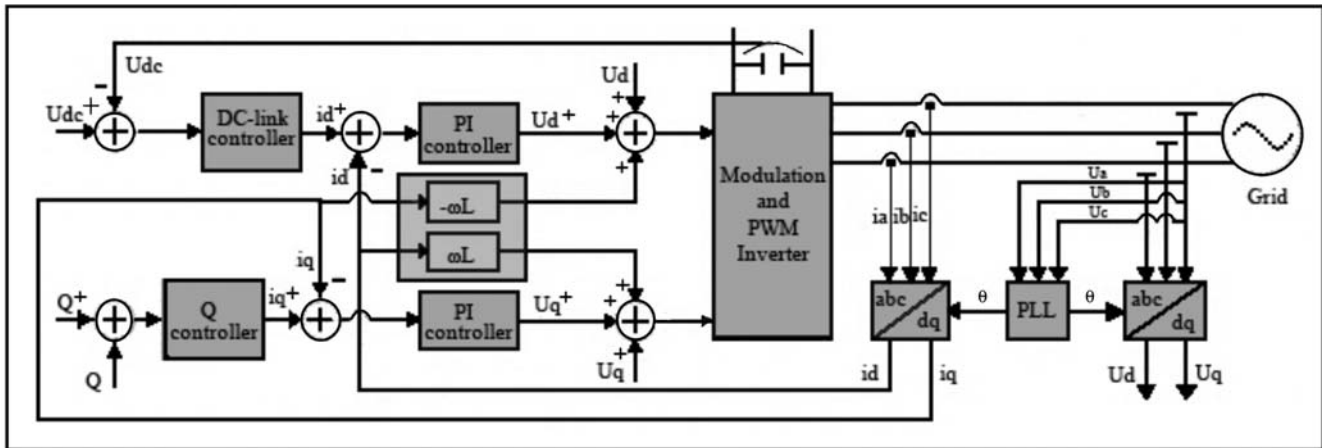

Fig.5: General structure for synchronous rotating frame control structure [2].
A schematic of the dq control is represented in Figure 5. In this structure, the dc-link voltage is controlled in accordance to the necessary output power. Its output is the reference for the active current controller, whereas the reference for the reactive current is usually set to zero, if the reactive power control is not allowed. In the case that the reactive power has to be controlled, a reactive power reference must be imposed to the system. The dq control structure is normally associated with proportional-integral (PI) controllers since they have a satisfactory behaviour when regulating dc variables.
Where, K_p is the proportional gain and K_i is the integral gain of the controller. Since the controlled current has to be in phase with the grid voltage, the phase angle used by the abc→dq transformation module has to be extracted from the grid voltages. As a solution, filtering of the grid voltages and using arctangent function to extract the phase angle can be a possibility. In addition, the phase-locked loop (PLL) technique became a state of the art in extracting the phase angle of the grid voltages in the case of distributed generation systems. PLL is used to synchronize the DG system with grid. For improving the performance of PI controller in such a structure as depicted in Figure 5, cross-coupling terms and voltage feed forward are usually used. In any case, with all these improvements, the compensation capability of the low-order harmonics in the case of PI controllers is very poor, standing as a major drawback when using it in grid connected systems. Also the tuning of PI is a big problem [2].